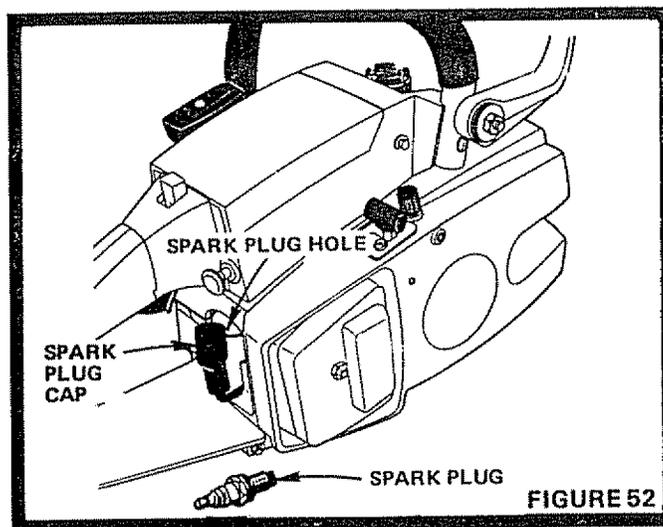

FIGURE 52
3. Remove the Spark Plug and pour a teaspoonful of oil through the spark plug hole into the combustion chamber (Fig. 52). Pull the starter rope slowly several times to distribute the oil throughout the engine. Replace the Spark Plug tightly and pull rope until resistance is felt, closing intake and exhaust ports.